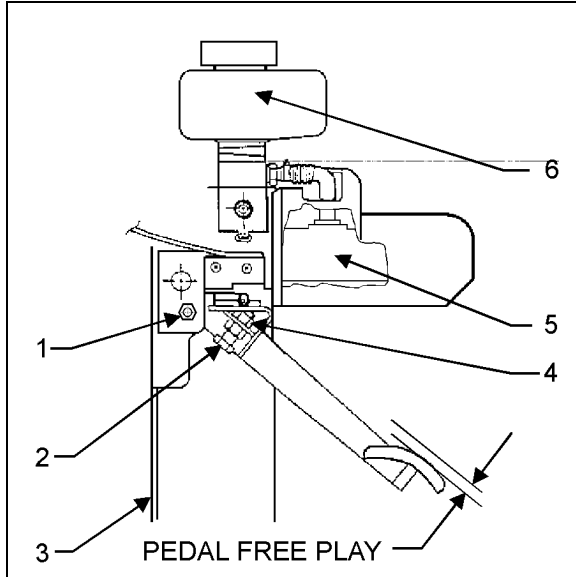

FIGURE 1: FREE PLAY ADJUSTMENT OEH3B716
1. Free play adjustment is made by loosening nut (1, Fig. 1) and moving bolt in slot. The pedal moves down allowing a 1/4" (6 mm) of **free play** before the master cylinder (5, Fig. 1) starts to move.
2. Keep this adjustment by tightening nut (1, Fig. 1).
4. Loosen the adjustment bolt (2, Fig. 1) until it touches the pedal wall support (3, Fig. 1).
- Loosen the adjustment bolt (2, Fig. 1) for another 1-1/2 turn. Lock in position by tightening nut (4, Fig. 1).